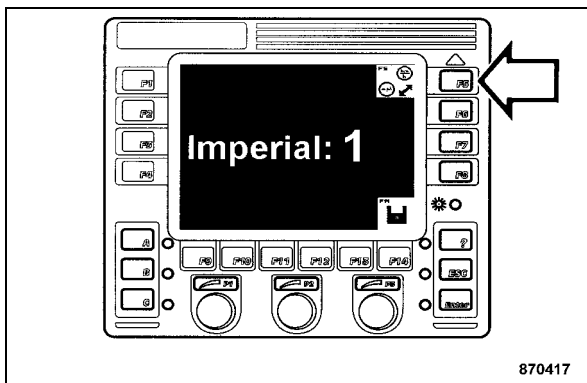

Fig. 81
- Press "F5" (Fig. 81) and choose the units system.